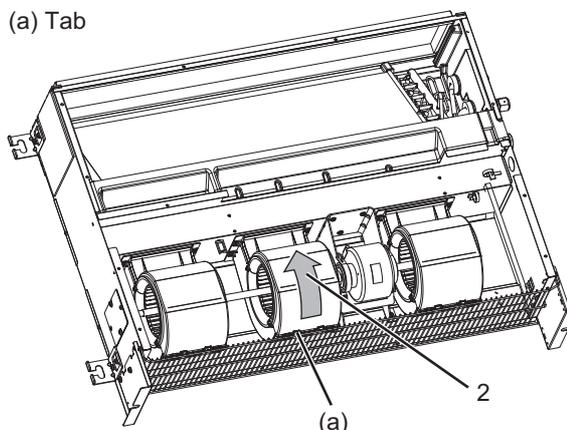

Fig. 11
- (1) Squeeze the tabs on the fan casing to remove it in the direction of arrow 2. (Fig. 11)